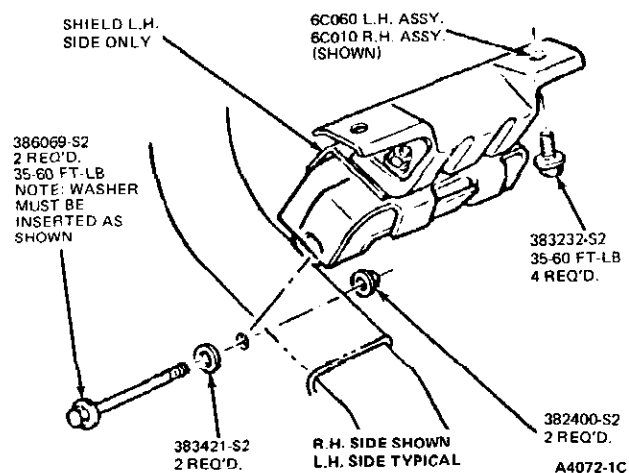

FIG. 4 Engine Front Supports—Granada, Monarch and Versailles
2. Remove the nut and through bolt attaching the insulator to the insulator support bracket (Fig. 4).